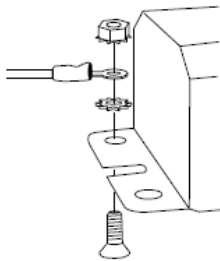

Figure 9. Grounding Kit Instructions
- Bodine emergency drivers with metal enclosures are provided with a separate grounding kit (PRT00088) that should be used during installation to ensure the driver enclosure is properly grounded. An example of the kit instructions is shown in Figure 9.